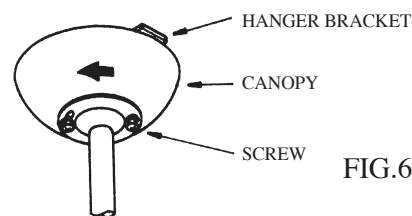

FIG.6
3. Loosen the two canopy mounting screws from the hanger bracket. Mount the canopy on the two screws in the hanger bracket and twist the canopy, so the screw heads hold the canopy in place. Retighten the two screws (see FIG 6).